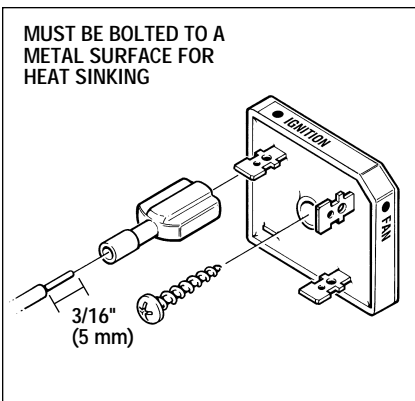

Figure 3-23 Isolator Detail
2. Mount the isolator in the sleeper fan motor area to a solid surface with the screw provided. Cut OEM wire to sleeper fan motor and connect isolator in series. Connect using 1/4 inch spade connectors provided. (See Figure 3-23) Wire end from resistor pack connected to isolator terminal marked "ignition". Wire end from sleeper fan motor connected to isolator terminal marked "fan".